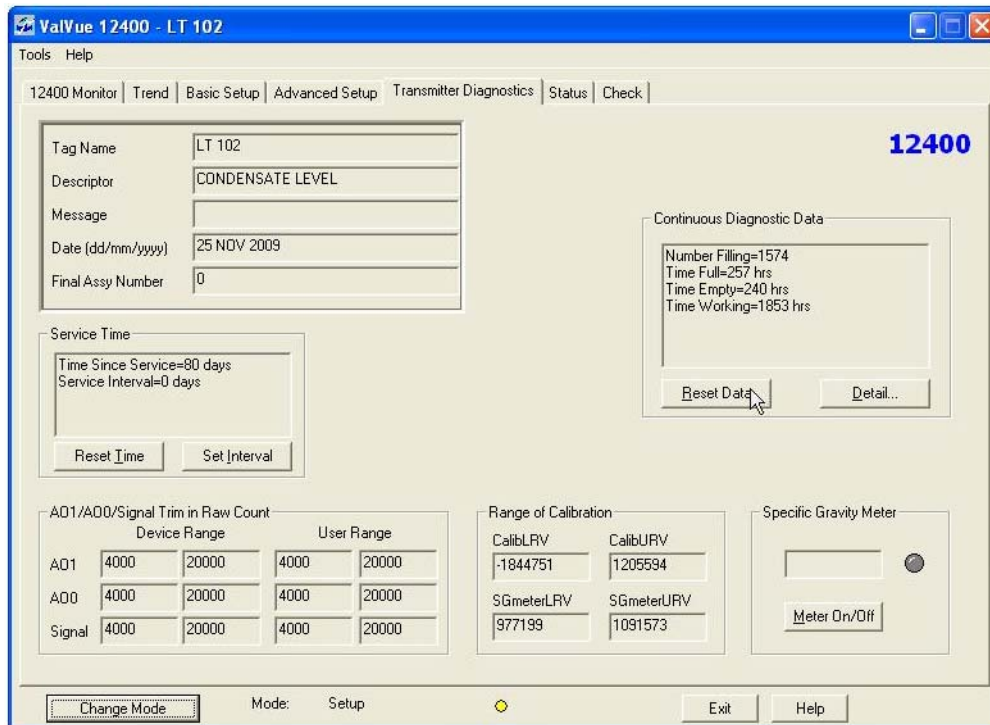

Figure 252 Selecting Reset Data
1. Click **Reset Data** (Figure 252).